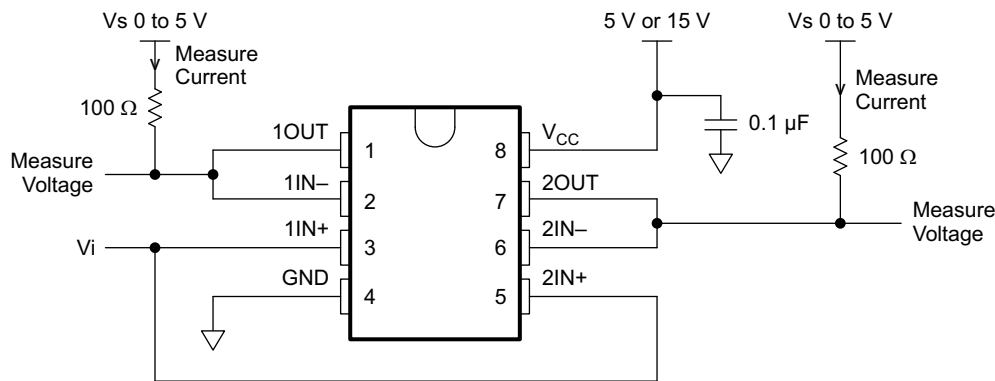

Figure 4. Bench-Test Schematic
- ⁽¹⁾ Bench test schematic shown in Figure 4